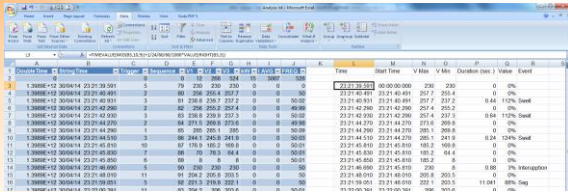

Figure 3: Sag/Swell/Interruption Analysis
7. The MDB file was opened by Microsoft Excel (one can create an automatic link to MDB files to make the process automatic). See Figure 3